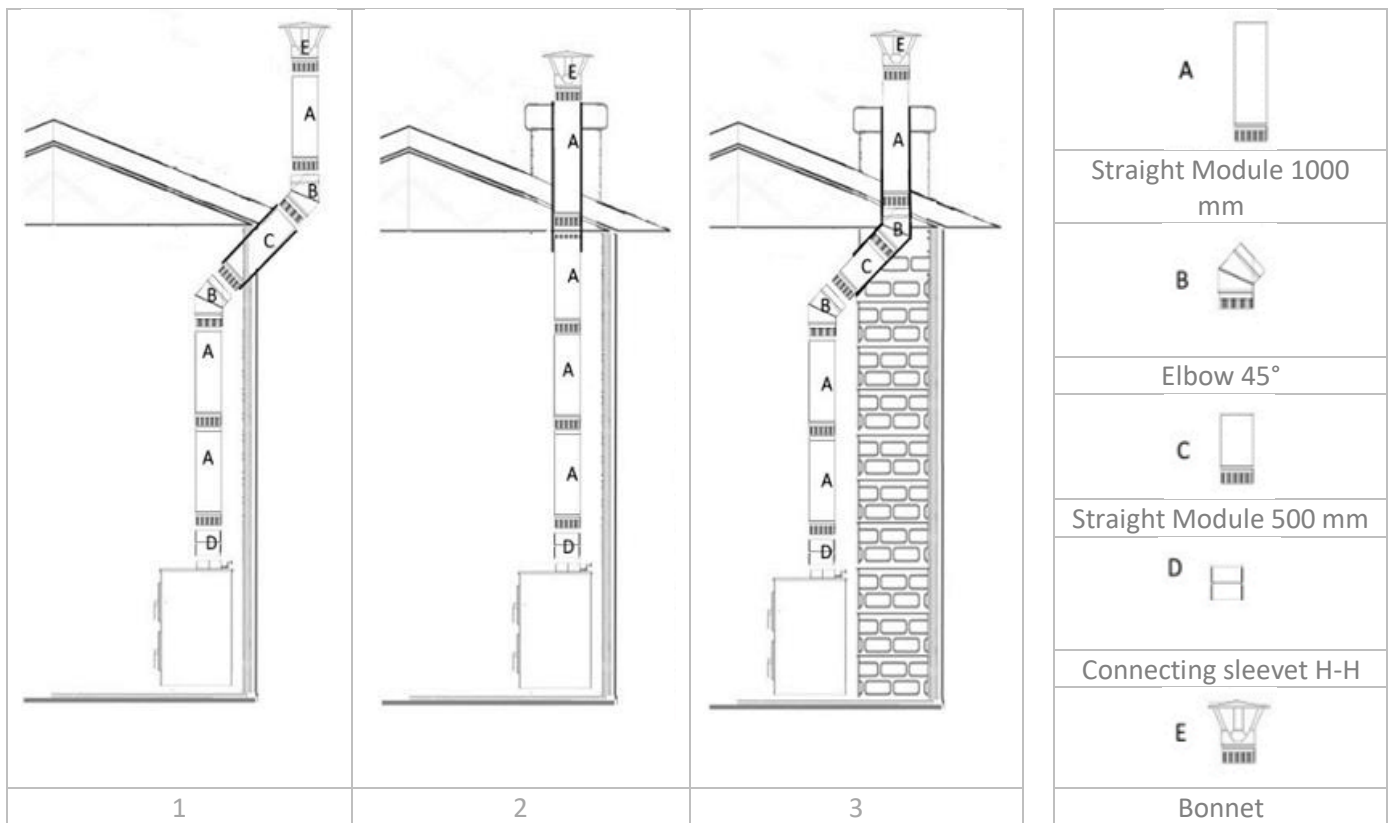

Figure 2
- VERTICAL SECTION (A).** The total length of the vertical pipe required to reach the roof for natural draught (flue gas depression) can vary from installation to installation, depending on various factors, but generally ranges from approximately 4 m to 6 m. However, optimal performance is guaranteed with a minimum vacuum of approximately ± 15 Pa (pascals).
- BENDS (B).** If bends are required (see drawings 1 and 2 in Figure 2), the ducts will be connected using elbows. These may be up to 45° and must not be narrowed. The following must also be considered:
- HORIZONTAL SECTION (C).** The connecting duct or horizontal section of the chimney must be designed with the minimum possible length and avoiding changes in direction and section as much as possible. The following must be taken into account accordingly:
- UNION SLEEVE (D).** For the correct connection of the vertical duct with the flue outlet collar m (male) of the cooker, a socket h/h (female/female) is required so that the end m (male end of the vertical duct faces downwards).
- CHIMNEY CAP (E).** For proper smoke evacuation and to prevent wind influences, certain minimum distances from the chimney cap are required. See the following figure: